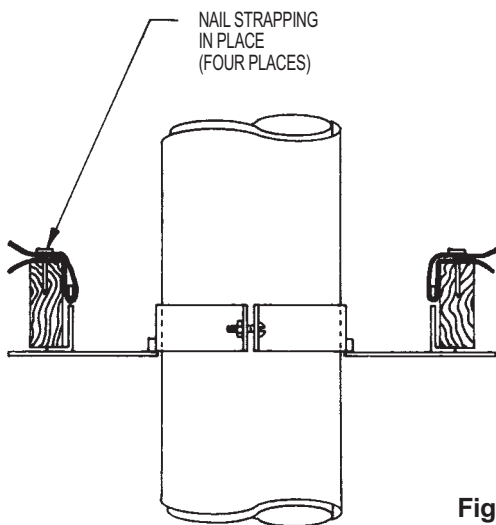
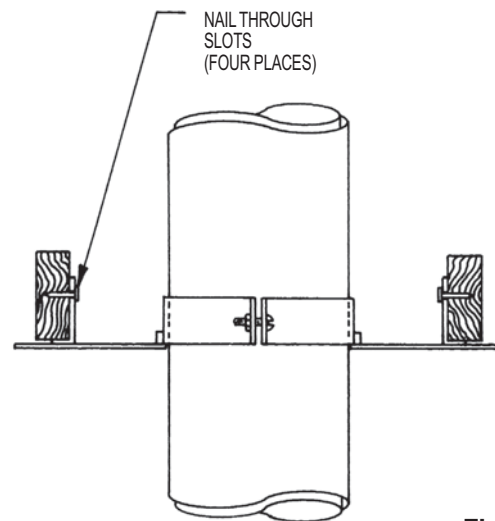
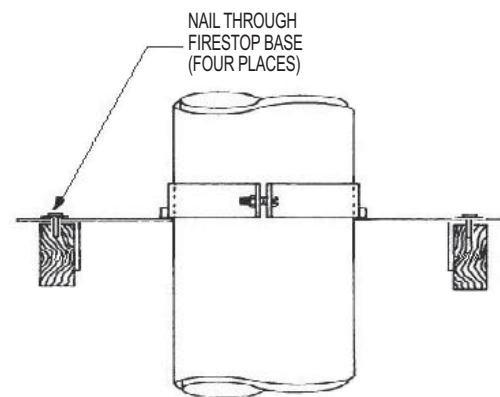

Figure 7
Figure 8
Figure 9
3. Secure Firestop Support (FSP) as shown in **Figure 7**. Install strapping (minimum ¾", 28-gauge) through all four slots in collar, and nail as shown or nail at all four slots as shown in **Figure 8** and **Figure 9**.
Adjustable Length Sections may also be used to compensate for linear thermal expansion between two fixed points in the vent system. Examples of this are shown in **Figures 9 and 14**. In these examples the fastening devices are not used. This allows for expansion between two fixed supports or between a fixed support and the appliance. Note that the fastening means should be left loose only if the Vent and the Adjustable Length Sections are installed vertically. If the Adjustable Length Sections are used in a position other than vertical, such as between offsets, the fastening means should be used.